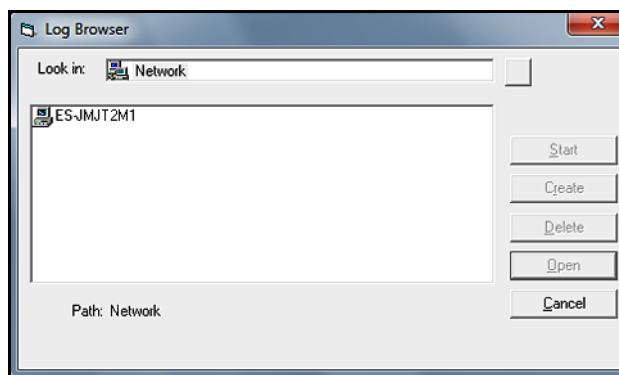

Figure 76: Create a Meter Log
- d. Double click on *meter logs* to move to the network level shown in *Figure 76* below.
- e. At the dialog box shown in *Figure 76* above, click [Create] button to create a new meter log.